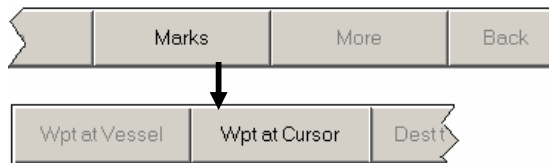

Figure 4-17. Placing A Waypoint At The Cursor's Current Position
1. As shown in Figure 4-17, click **Marks/Wpt at Cursor** on the function bar (this function cannot be accessed from the Waypoints drop-down menu).